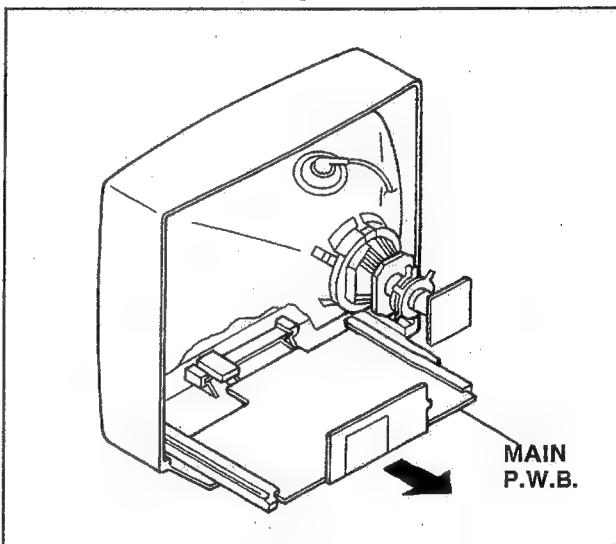
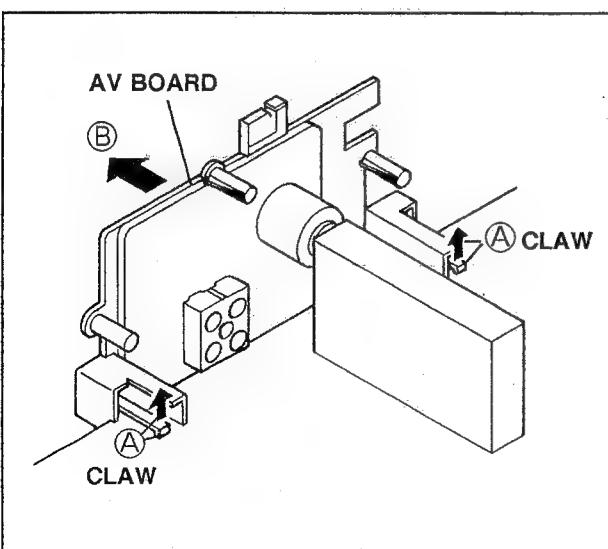

Fig. 2
Fig. 3
1. Withdraw the MAIN PW board backward along the rail.(Fig. 2)
3. Remove the claws marked **A** by widening slightly in the direction of arrow as shown in Fig.3.
4. Remove the AV BOARD in the direction of arrow marked **B** as shown in Fig.3.
(1) Power off Switch off the power and disconnect the power cord from the outlet.
(2) Replace the memory IC. Initial value must be entered into the new IC.
(3) Power on Connect the power cord to the outlet and switch on the power.
(4) System constant check and setting 1) Simultaneously press the DISPLAY key and PICTURE MODE key of the remote control unit. 2) The SERVICE MENU screen of Fig. 1 is displayed. 3) While the SERVICE MENU is displayed, again simultaneously press the DISPLAY and PICTURE MODE keys to display the Fig. 2 SYSTEM CONSTANT screen. 4) Refer to the SYSTEM CONSTANT table-1 and check the setting items. Where these differ, select the setting item with the PICTURE ADJUST CENTER key and adjust the setting with the PICTURE ADJUST + / - keys.	 <p>Fig. 1</p>
[ABL SETTING] 5) Press the PICTURE ADJUST + / - keys to adjust each item of ABL/REF/STEP in the ABL settings as shown Fig. 3. Then, select the items by the PICTURE ADJUST CENTER key and set the values by the PICTURE ADJUST + / - keys. After setting, press the MUTE key to return to the SYSTEM CONSTANT screen. 6) After adjusting, release the PICTURE ADJUST + / - key to store the setting value. 7) Press the MUTE key twice to return the normal screen.	 <p>Fig. 2</p>
(5) Receive channel setting Refer to the OPERATING INSTRUCTIONS and set the receive channels as described.
(6) User settings Check the user setting items according to table-2. Where these do not agree, refer to the OPERATING INSTRUCTIONS and set the items as described.	 <p>Fig. 3</p>
(7) SERVICE MENU setting Check the items according to Table-3. Where necessary, refer to SERVICE ADJUSTMENTS and set the items as described.